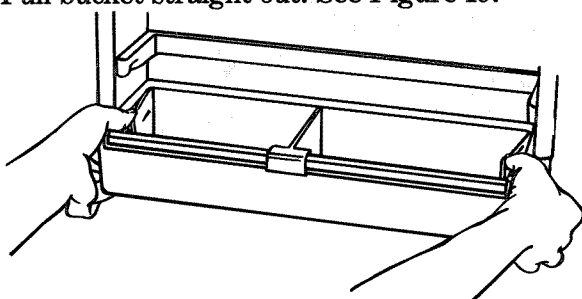

Figure 19
- c. Pull bucket straight out. See Figure 19.